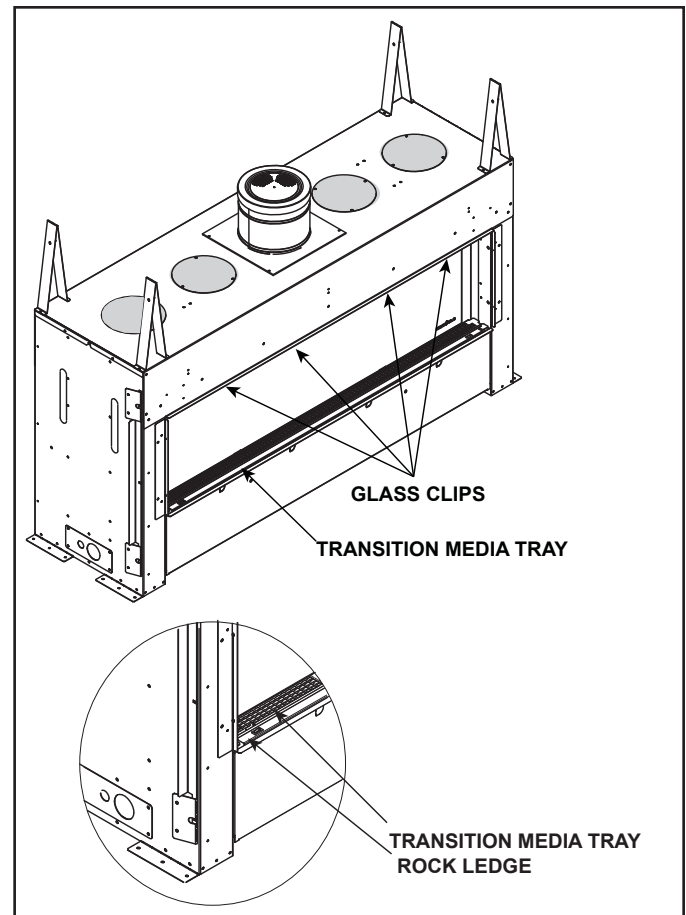

Figure 11.5 Location of Glass Clips and Transition Media Tray
1. Remove the transition media from the appliance. Lift the transition media tray out of appliance. The transition media tray fits tightly, lift carefully. See Figure 11.5.
2. Locate the glass clips that are on the upper edge of the glass frame of the appliance. See Figure 11.5.